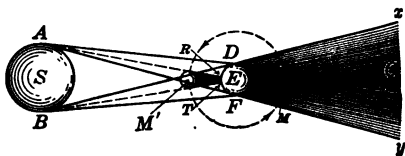

FIG. 279. — Penumbra and eclipses.
a *shadow*. When the source of light is a point, as in Fig. 278, all the rays will be cut off from the dark part of the screen S by an opaque ball B . If the light comes from a spherical object, the shadow will vary in intensity. See Fig. 279.
The part from which all the rays of light are excluded, included in the cone DCF , is called the *umbra*. The length of the umbra depends upon the relative sizes of the luminous and opaque objects and upon the distance between them. The lighter parts of the shadow, CFy and CDx , are called the *penumbra*. Suppose we let S represent the sun in Fig. 279, E the earth, and M the moon. It
8. In Fig. 279, the radius AS of the sun is 433,000 miles; the radius ED of the earth is 4000 miles; the distance SE between the sun and the earth is 92,500,000 miles. Find EC , the length of the earth's shadow. (*Hint.* Note that ASC and DEC are similar triangles. SC equals 92,500,000 miles plus x miles.)